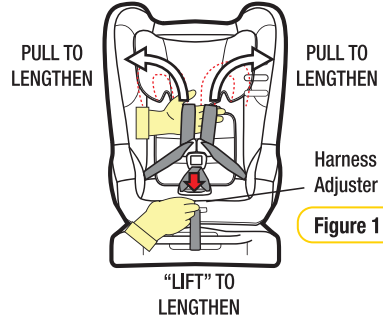

Figure 1
Step 2: To lengthen the harness “LIFT” the harness adjuster (refer Figure 1) whilst grasping both shoulder harness straps and pulling. Ensure shoulder straps are pulled equally on each side.